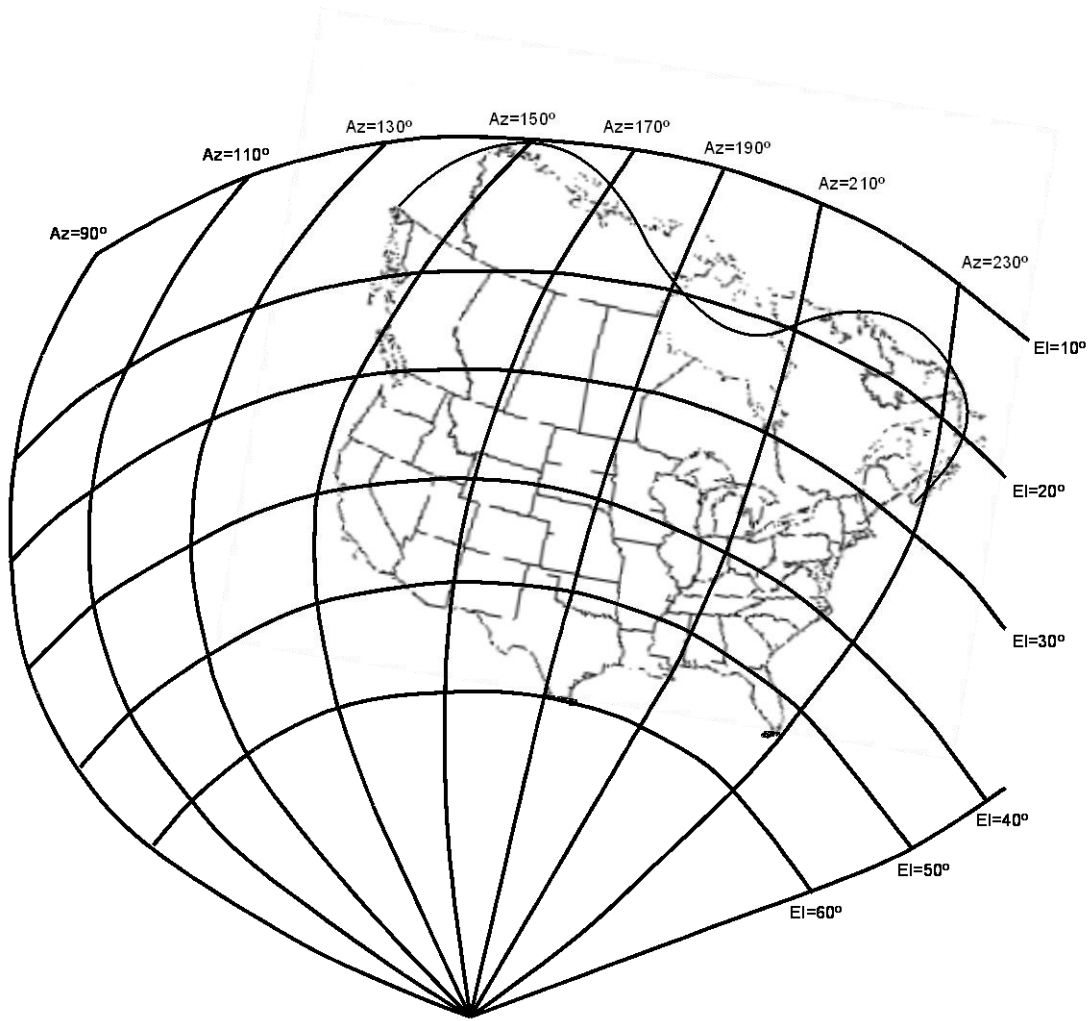

Figure 4-7 – Antenna Positioning Map with Azimuth and Elevation Degrees
1. Refer to the *Antenna Positioning Map* (see Figure 4-7) for the correct positioning of the *SDT 5000*.
The map shown in Figure 4-7 may vary 5 to 10 degrees, in regards to *Elevation* and *Azimuth*, depending on the specific location. It is provided solely as an aid to assist in positioning the *SDT 5000*.